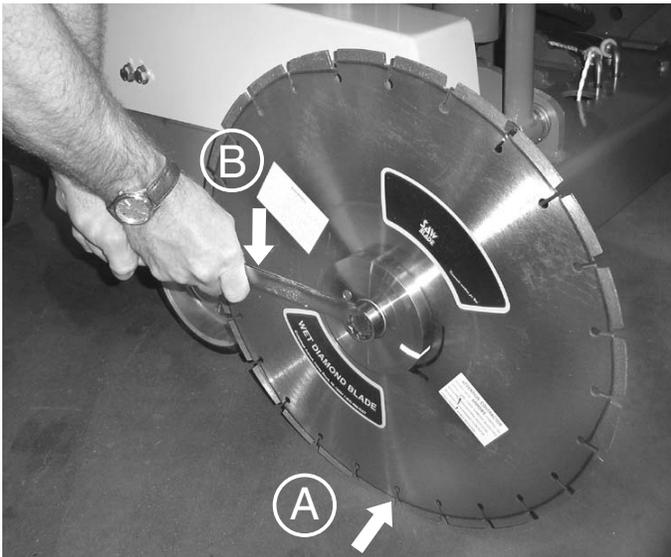

Figure 14. Torque Flange Bolt
6. Lower the blade to the ground surface (A in Figure 14) to prevent blade from spinning and tighten the mounting bolt to 125-175 ft. lbs. (169.5 -237.3 Nm) of torque. (Item B in Figure 14.)